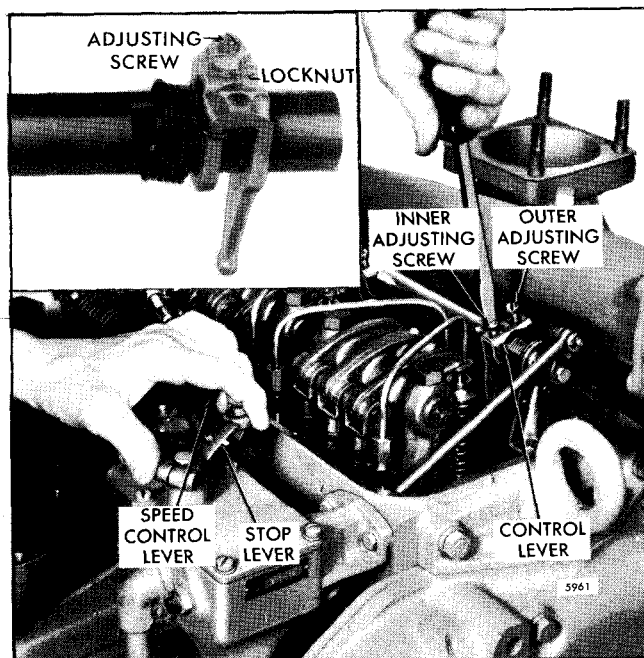

Fig. 2 - Positioning No. 1 Injector Rack Control Lever
8. Hook the torsion retracting spring on the special cover screw and the stop lever (Fig. 2).
Adjust the No. 1 injector rack control lever (Fig. 2) first, to establish a guide for adjusting the remaining injector rack control levers.
2. Loosen all of the adjusting screws and locknuts (Fig. 2). Be sure all of the injector rack control levers are free on the injector control tube.
until the injector rack clevis is observed to roll up or an increase in effort to turn the screwdriver is noted (Fig. 2). Tighten the screw approximately 1/8 of a turn more and lock securely with the adjusting screw locknut. This will place the No. 1 injector rack in the full-fuel position.